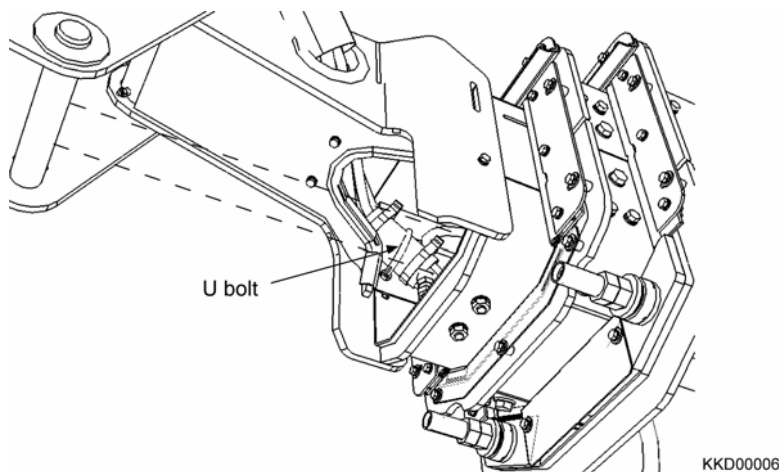

Fig. 2-35
- 10) Take the U bolt fixing the boom cable and hoses off. (Fig. 2-35)